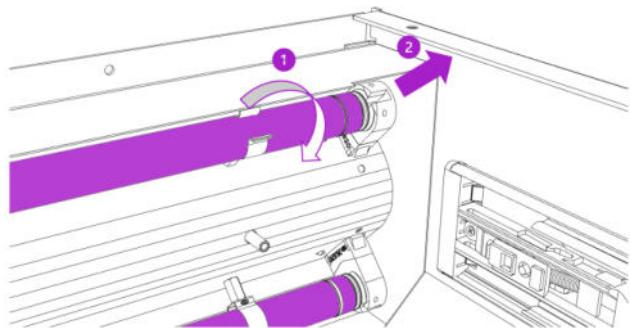

Fig. 17
3. Turn the UV-C lamps in direction of arrow as shown in Fig. 17 (1) until you hear a clicking sound. Remove UV-C lamps in direction of arrow (2). Dispose of the UV-C lamps (see 7, page 30)